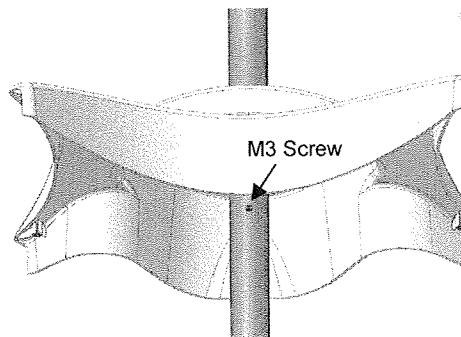

Figure 5: M3 Post Screw
7. Slide the cover towards the flared end of the post as far as possible. Then re-install the M3 screw into the post. This is to hold the cover up while other work is done. Refer to Figure 5.